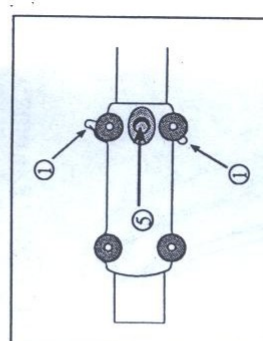

Fig. 6
3. Locate and lock the release button into the hole in the coupler (Fig. 6). Check the sight hole to make sure both ends of the boom are together before using the unit.
4. To remove the attachment, loosen the wing screws, push the release button and pull the lower boom straight out of the coupler (Fig. 6).